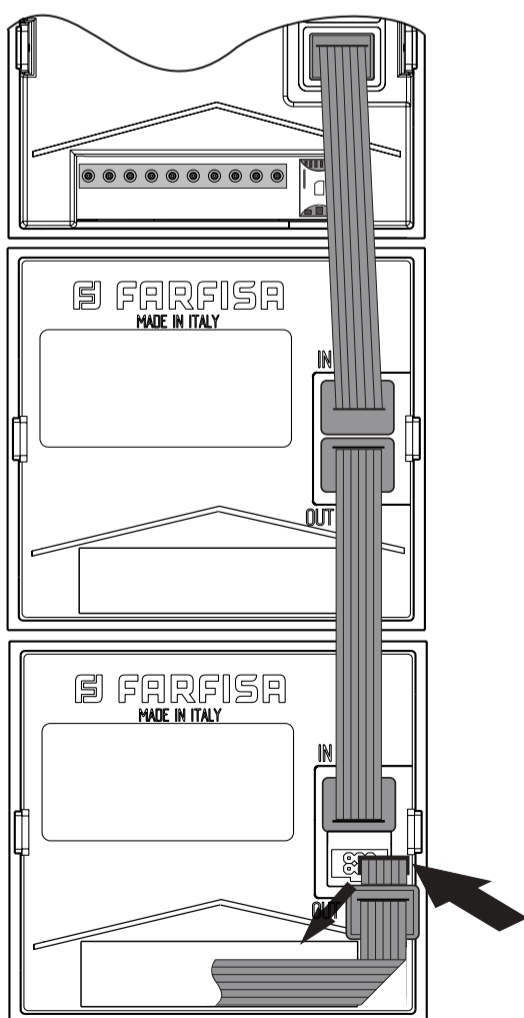

Fig. 5a
- When the frame is assembled go to the wall box and, if present, connect the long flat cable of the next wall box to the last module (figure 5a).